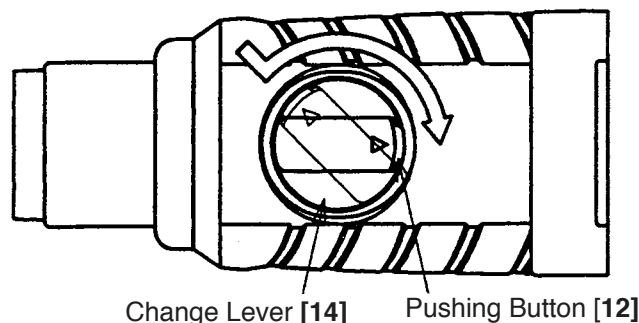

Fig. 8
(1) Disassembly of the striking mechanism section
Push in the Second Hammer **[27]** with a drill bit or a screwdriver. Remove the Striker **[35]** chucked by O-ring (C) **[32]**. Push the Pushing Button **[12]** fully when the Change Lever **[14]** is positioned "Rotation Only" (⚙️ mark) as shown in Fig. 8. Then turn the Change Lever **[14]** by 135° clockwise. Ply out the Change Lever **[14]** at this position. Remove the Tapping Screw (W/Flange) D5 x 35 **[9]** from the Gear Cover **[10]** and remove the Gear Cover **[10]**.